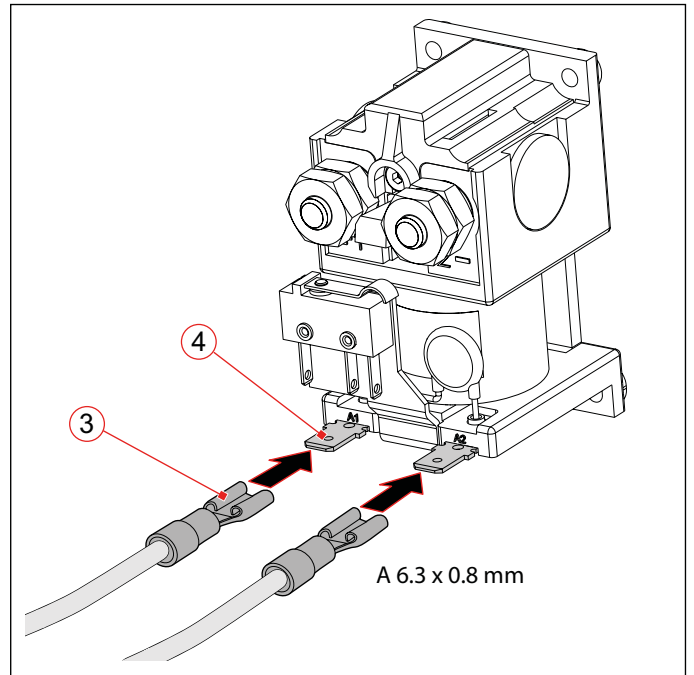
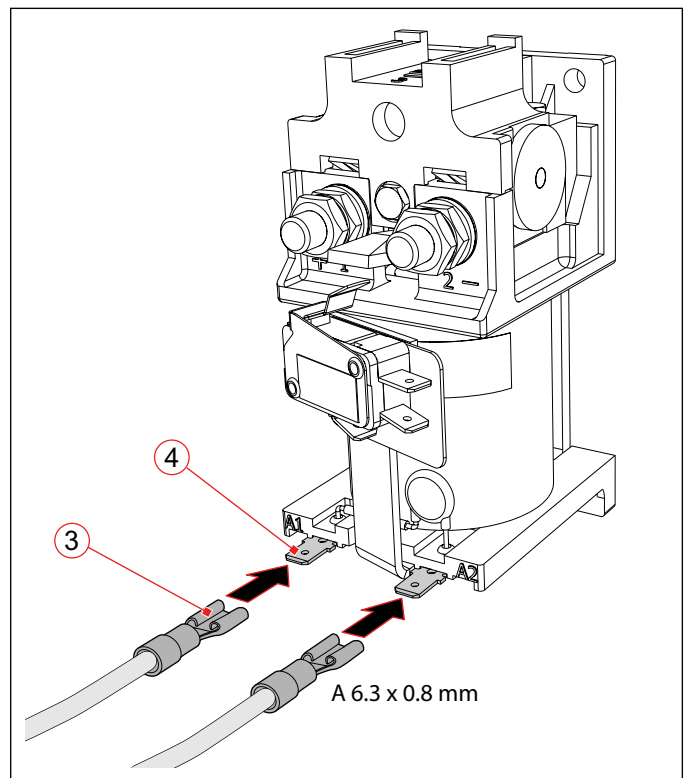

Fig. 24: C137 Series: Connect the coil terminals
Fig. 25: C163, C164, C165 Series: Connect the coil terminals
- ▶ Move and lay the control wires and flat receptacles for tabs only in plugging direction, see Fig. 24 und Fig. 25.
▶ Plug the prepared control wires with the flat receptacles (3) to both coil terminals A1 and A2 (4).